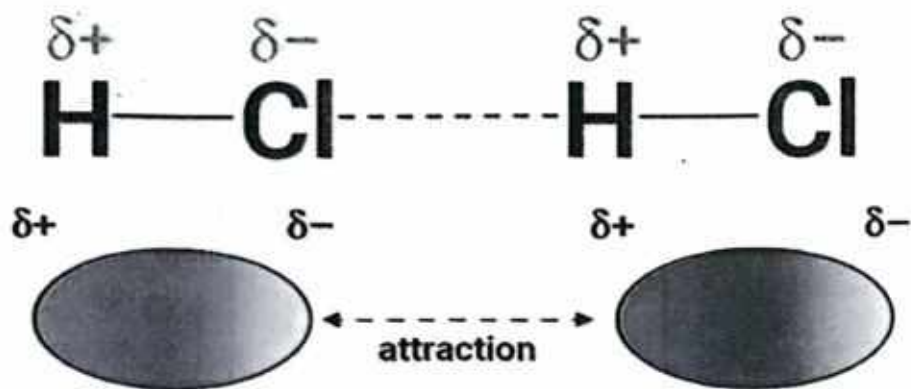

Fig. 7.4: Dipole-dipole interaction
- a. Dipole-dipole forces exist between polar molecules (molecules which have partial charges at opposite ends of the molecules). Dipole-dipole interaction is shown here in figure 7.4.